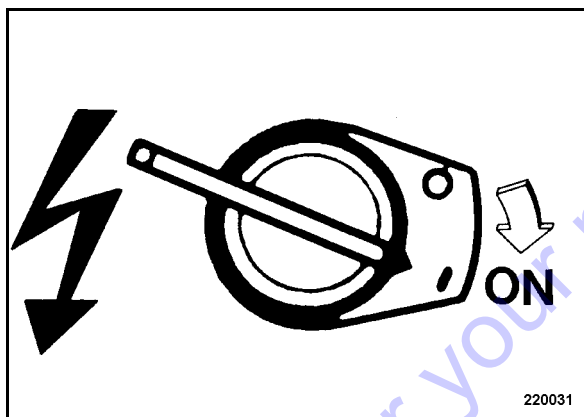

Fig. 21
- Turn the ignition switch (Fig. 21) to position "I" (ON).